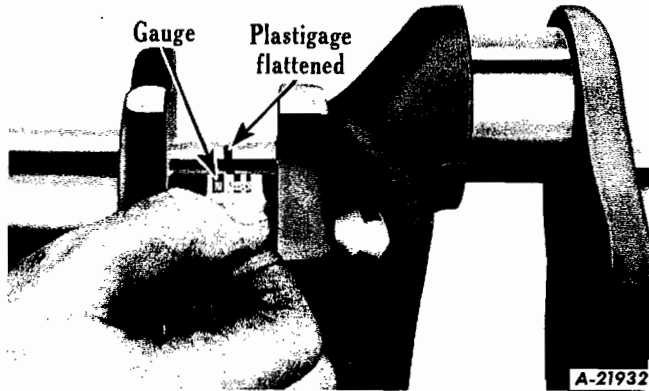

Fig. 46 - Checking Bearing Clearance
- (e) To determine the bearing clearance, compare the width of the flattened plastigage at its widest point with the graduations on the envelope (Fig. 46). The number within the graduation on the envelope indicates the clearance in thousandths of an inch. NOTE: Do not turn crankshaft during the above procedure.